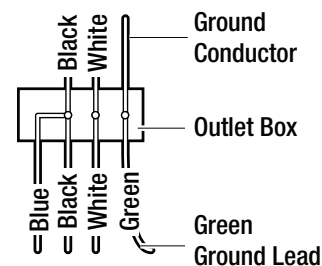

Figure 6
- Connect the fan supply (black) wire and light supply (blue) wire to the black household wire as shown in Figure 6. Do not connect the blue wire if the light kit is not used.
- After connecting the wires, secure the wire connectors (BB) with black electrical tape and spread them apart so that the green and white wires are on one side of the outlet box and the black and blue wires are on the other side. (i.e., grounded conductor on one side and hot wires on the other side.)
- Turn the wire connectors (BB) upward and push the wiring into the outlet box.